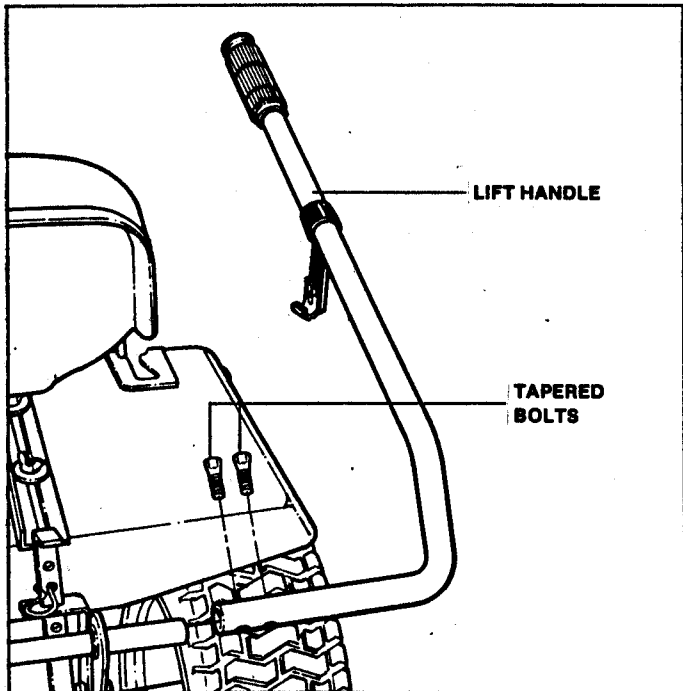

FIGURE 5
4. Mount handle bar with two (2) 5/16" - 24 tapered bolts (Part number 1-1035) and nuts (Part number 1-1201). See Figure 5.